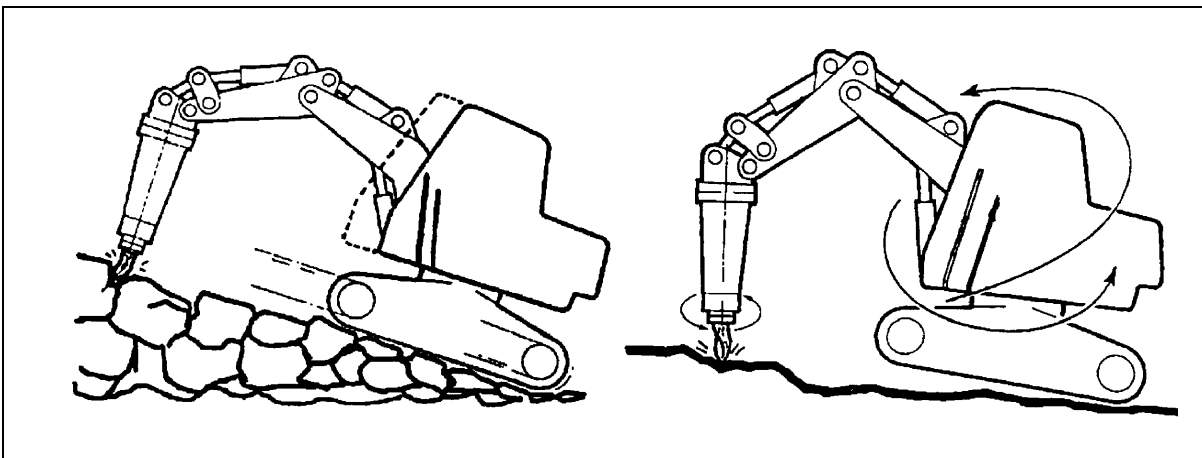

Figure 02-01: Position Carrier Correctly
- a) Position the carrier so that the reach to the work is adequate. Ensure that the carrier is in a stable position and is not placed on a crumbling or slipping surface during operation. (Figure 02-01) This guarantees a constant load on the hammer.